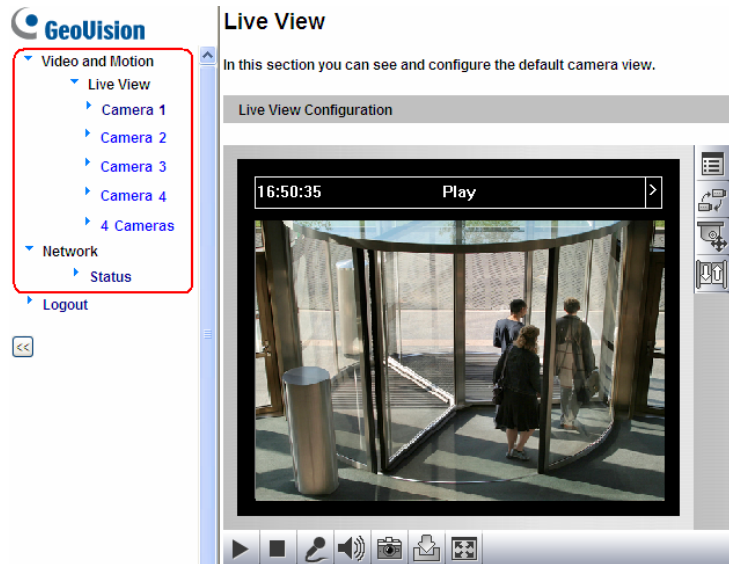

Figure 3-2 Main page of GV-VS04H in Guest Mode
- For Internet Explorer, a video image, similar to the example in Figure 3-2, is now displayed in your browser.